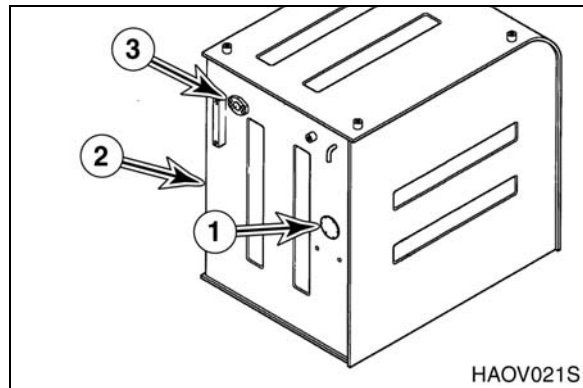

Figure 15
7. Connect wires as tagged to fuel sensor (1, Figure 15) on side of fuel tank (2).
8. If equipped, connect components to the fuel fill pump port (3, Figure 15) on side of fuel tank (2).